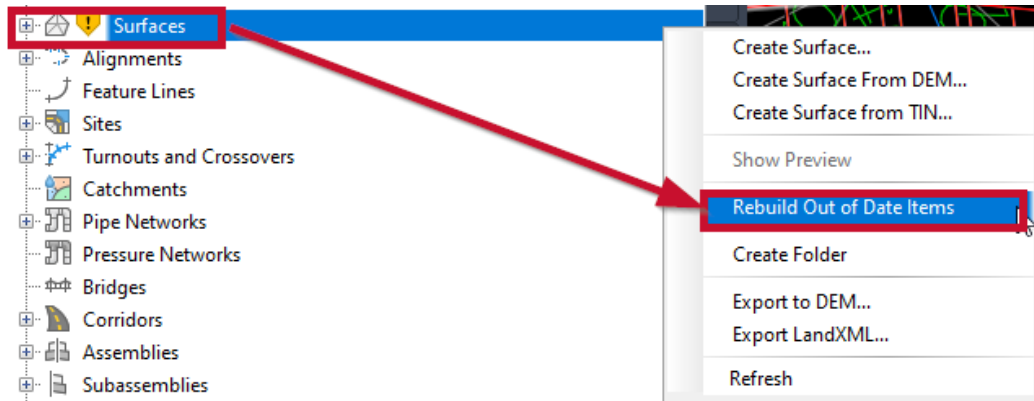

Figure 3.10 – Rebuild out of Date Items (All Surfaces)
10. Next, we'll want to move up to our Surface Model Civil 3D object classification in **TOOLSPACE** | **Prospector**, right-click on **Surfaces**, and select the **Rebuild Out of Date Items** option, as shown in *Figure 3.10*).